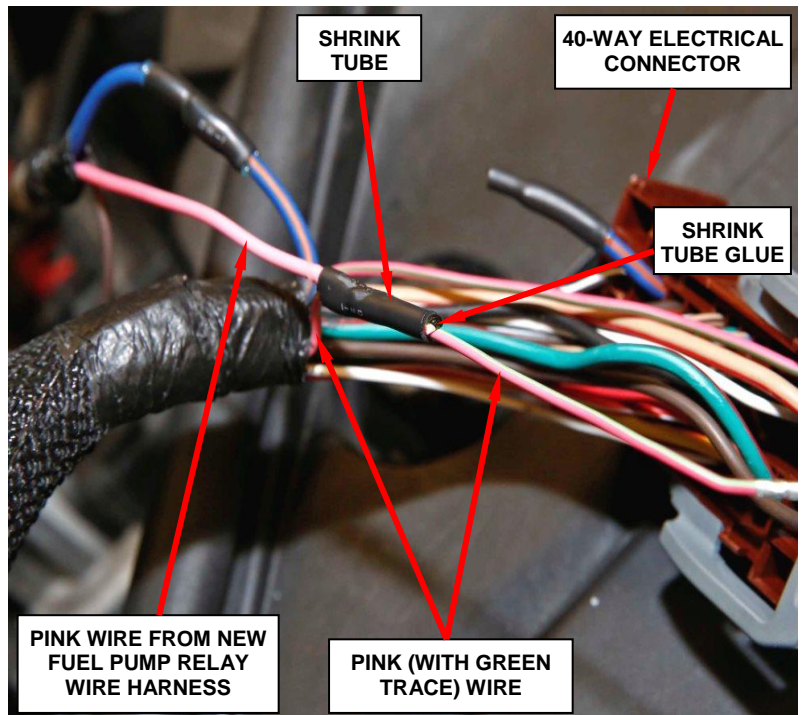

Figure 29 – Install Shrink Tube
- e. Slide the shrink tube evenly over the soldered brass splice band clamp and apply heat to the shrink tube until glue comes out of both ends of the shrink tube (Figure 29).